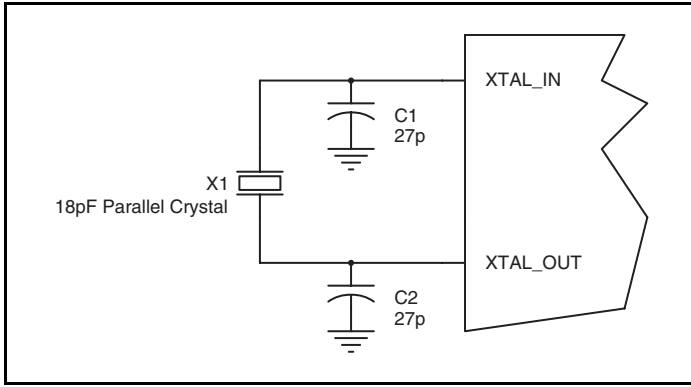

**Figure 3. Single-Ended Signal Driving Differential Input**
*Figure 3* shows how the differential input can be wired to accept single ended levels. The reference voltage  $V_{REF} = V_{CC}/2$  is generated by the bias resistors  $R1$ ,  $R2$  and  $C1$ . This bias circuit should be located as close as possible to the input pin. The ratio of  $R1$  and  $R2$  might need to be adjusted to position the  $V_{REF}$  in the center of the input voltage swing. For example, if the input clock swing is only  $2.5\text{V}$  and  $V_{CC} = 3.3\text{V}$ ,  $V_{REF}$  should be  $1.25\text{V}$  and  $R2/R1 = 0.609$ .